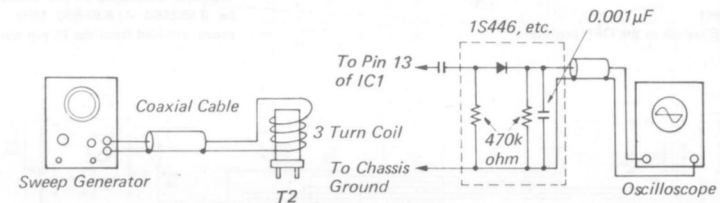

Fig. 3 FM IF Alignment Setup
- Couple output of the sweep generator to the RF transformer T2, using a coupling coil (two or three turns of vinyl wire) as shown in Fig. 3.